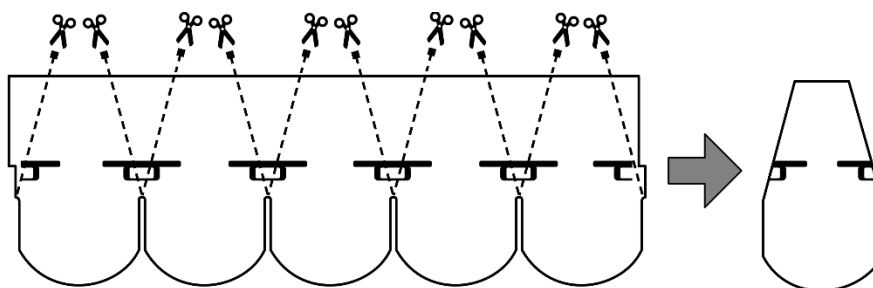

Fig. 10 - Ridge elements preparation
- Arrange the ridge elements by cutting an entire shingle into five pieces and shaping the top with a certain angle of cut - Fig. 10.